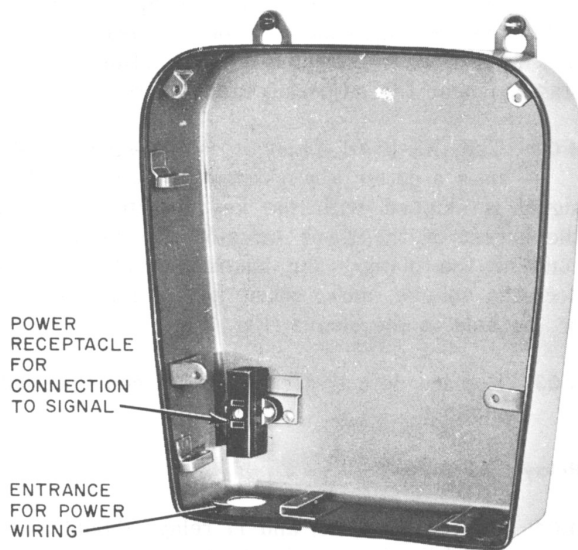

Fig. 3—Backbox, KS-16301, List 9
- Install backbox, List 9 or 11 so that the customer may have the commercial power connected (Fig. 3).